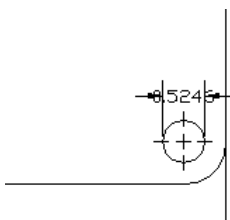

**Figure 15-17:** A narrow dimension using the Always keep text between ext lines option.
- ♦ **Always Keep Text between Ext Lines:** As it says, this option always keeps the text between the extension lines, even if they don't fit. Figure 15-17 shows a dimension using this option.